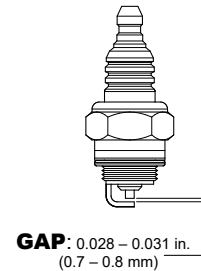

Figure 25. Spark Plug Gap
1. Remove and clean the spark plug (Figure 25), then adjust the spark gap to 0.024 ~0.028 inch (0.6~0.7 mm). This unit has electronic ignition, which requires no adjustments.